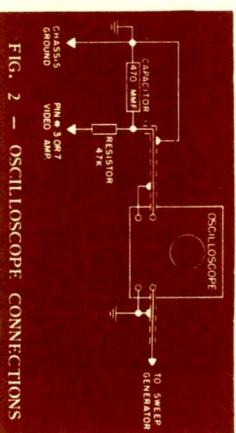
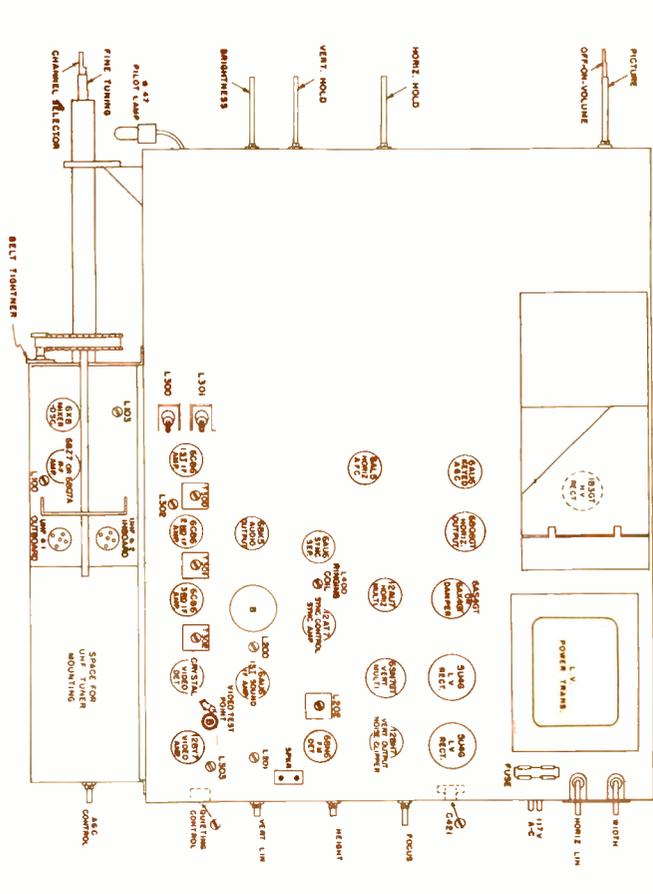

FIG. 2 - OSCILLOSCOPE CONNECTIONS
FIG. 5 - TOP VIEW OF CHASSIS
2. Connect the vertical input of the oscilloscope to the video test terminal (point "A" on Fig. 5) through the decoupling network shown in Fig. 2. The oscilloscope horizontal input should be connected to the sweep (synchronizing) output from the sweep generator through well shielded leads. Turn the sweep control on the oscilloscope to the "x" or "off" position.
1. Connect the high side of the signal generator to the video test terminal (point "B" on Fig. 5) through a .001 mfd mica capacitor, and ground the low side to the chassis.
3. Connect the common lead from the VTVM to the chassis, and connect the R-F probe from the VTVM to the cathode of the CRT. This point is shown as point "C" in Fig. 5. Note that this point is above ground potential and, therefore the R-F probe must contain a blocking capacitor.
2. Apply a 4.5 mc. FM signal (deviation approximately 7.5 kc.) to the video test point (B on Fig. 5).